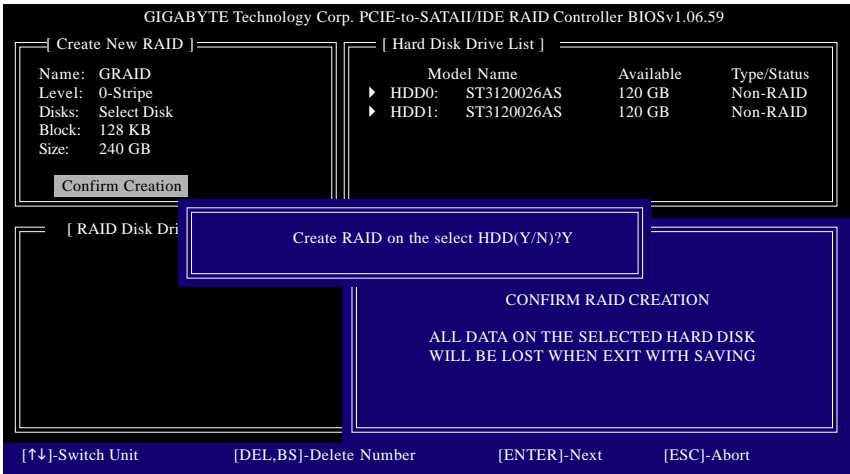

Figure 7
- 6. **Confirm Creation:** After all of the items above are configured, the selection bar automatically jumps to the **Confirm Creation** item. Press <Enter>. When prompted to confirm your selection (Figure 7), press <Y> to confirm or <N> to abort.